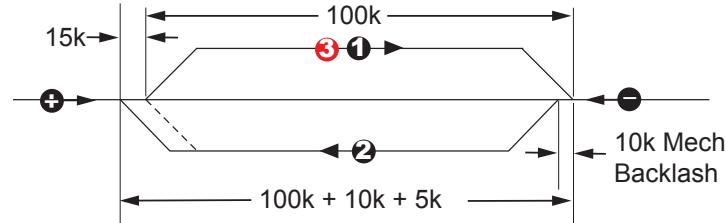

Figure 5.5 Backlash compensation Mode 1: Mechanical
Figure 5.5 illustrates Mode 1 operation using the assumption that backlash is taken up and the axis “loaded” in the plus (+) direction before the first move:
- 2) The example in Figure 5.5 assumes 10k steps of mechanical backlash, set BL (Backlash Amount) to 15000 (or some value greater than 10000)
- 3) Move ② indexes the axis minus (-) 100k steps but due to 10k steps backlash, the (uncompensated) physical movement of the axis would only be 90k steps. Since Move ② is opposite the sign of the compensation, 15k sites of compensation is added giving a sum of 115k steps. Because of the physical backlash, the result would be a 5 unit overshoot.
- 4) On execution of Move ③, the axis moves back in the plus (+) direction 15k steps – 10k to take up backlash and 5k to go to the correct position and “load” the axis again.